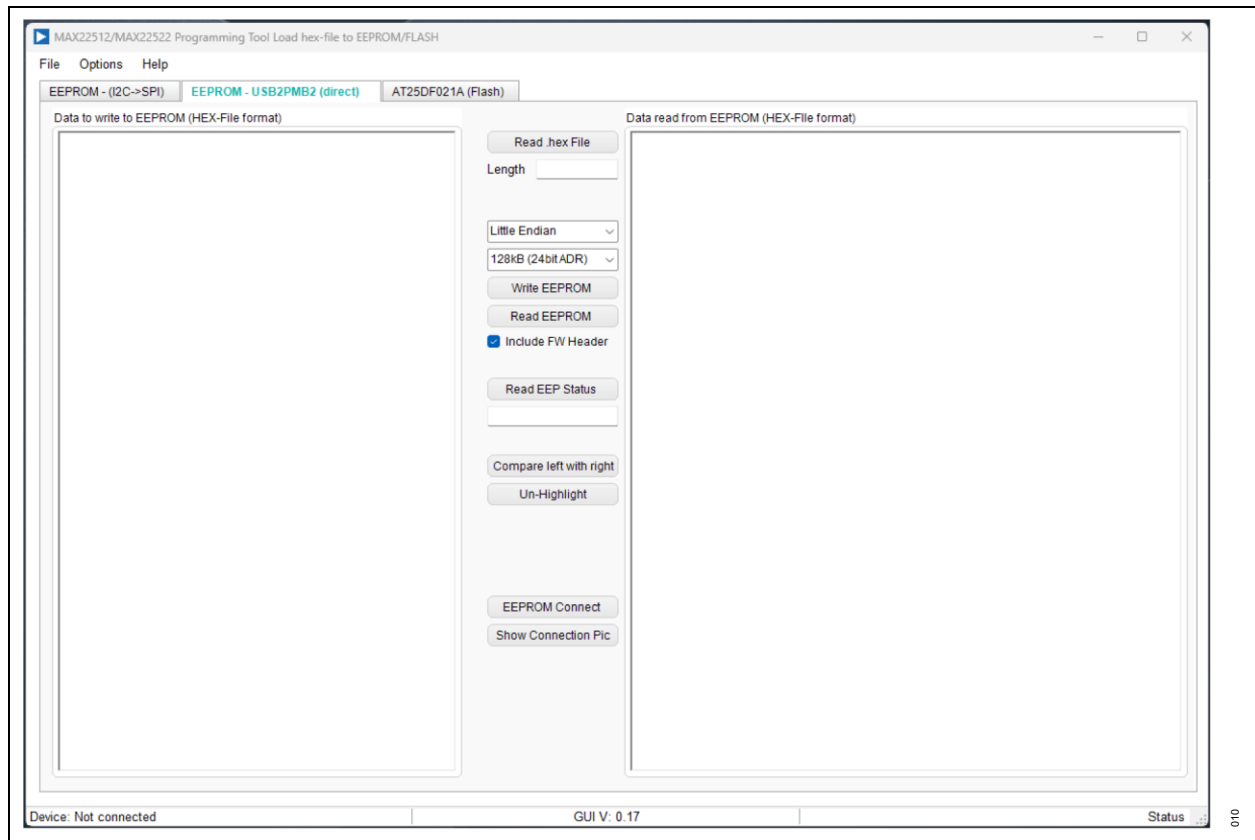

Figure 9. MAX22522 OTP/EEPROM GUI – EEPROM – USB2PMB2 (direct) Tab
2. Open the **MAX22522 EEPROM Tool** and select the **EEPROM – USB2PMB2 (direct)** tab. Click the **EEPROM Connect** button to connect to the EEPROM. The connection status is shown in the bottom right of the GUI screen. See Figure 9.